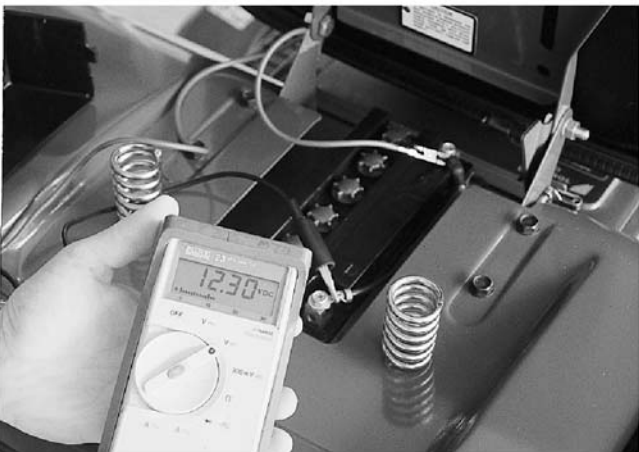

Figure 3-16.
2. Check the battery with a voltage tester. The battery should read approximately 12 volts. Turn the key switch to the start position. If the voltage drops more than 2 volts, refer to the battery video for testing procedures. See Figure 3-16.